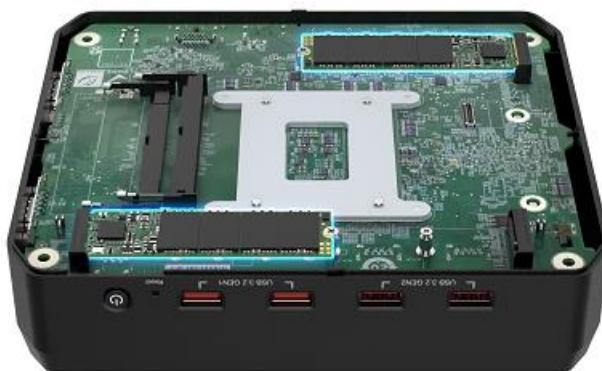

Figure 3-6: The M.2 Module Locations
Step 1: Locate the M.2 2280 M-key slot. (See **Figure 3-6**)